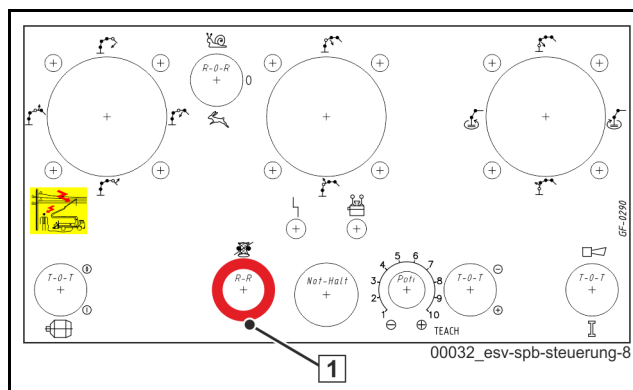

Fig. 448 Schematic diagram of remote control
The remote control has a selector switch (1) (**Fig. 448**) for opening and closing the end hose stop valve. The selector switch is a toggle switch.